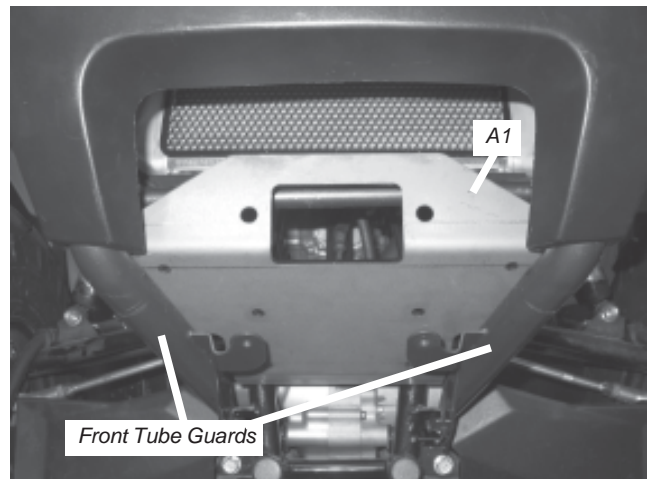

Figure 4 Place Winch Mounting Plate into Location
4. Rotate the mounting plate (A1) into location, Figure 4. Center the plate between the two front tube guards.